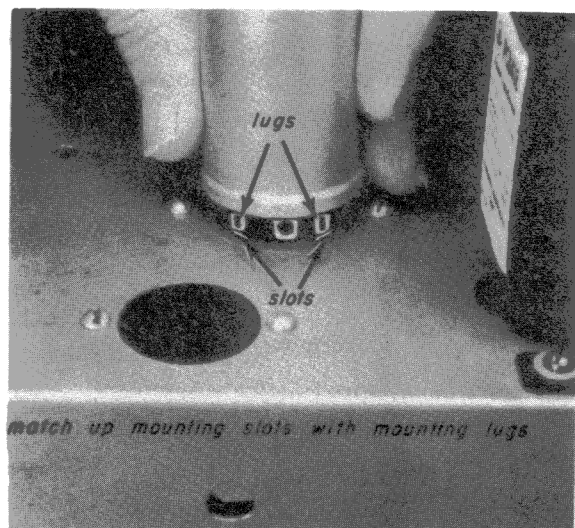

Fig. 18-3
Step 5. Hold the capacitor so that the 20- μ f section #2 is facing the rectifier socket, as in Fig. 18-3, and insert the four capacitor mounting lugs in the slots in the mounting ring.